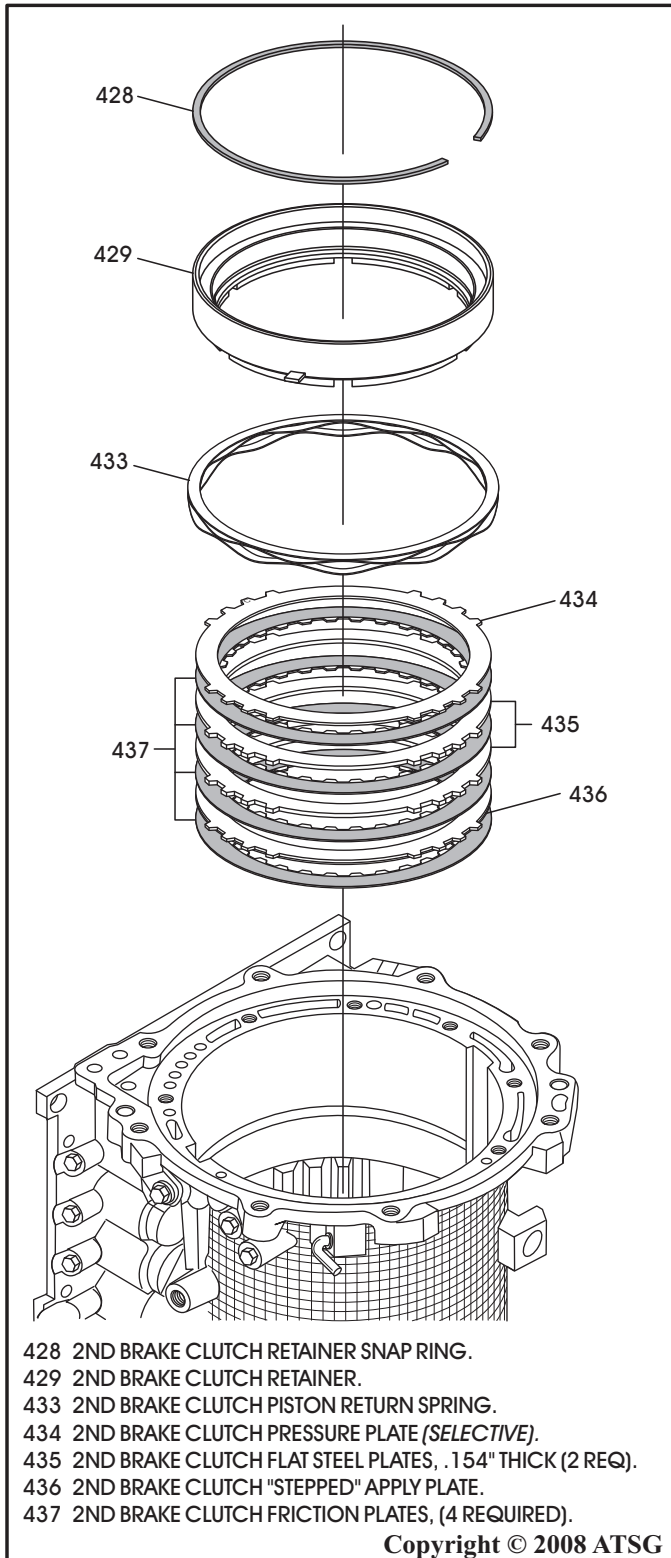

Figure 49
35. Remove 2nd brake clutch retainer snap ring, as shown in Figure 49.
36. Remove 2nd brake clutch retainer, as shown in Figure 49.
38. Remove 2nd brake clutch piston return spring, as shown in Figure 49.
39. Remove the 2nd brake clutches, as shown in Figure 49.